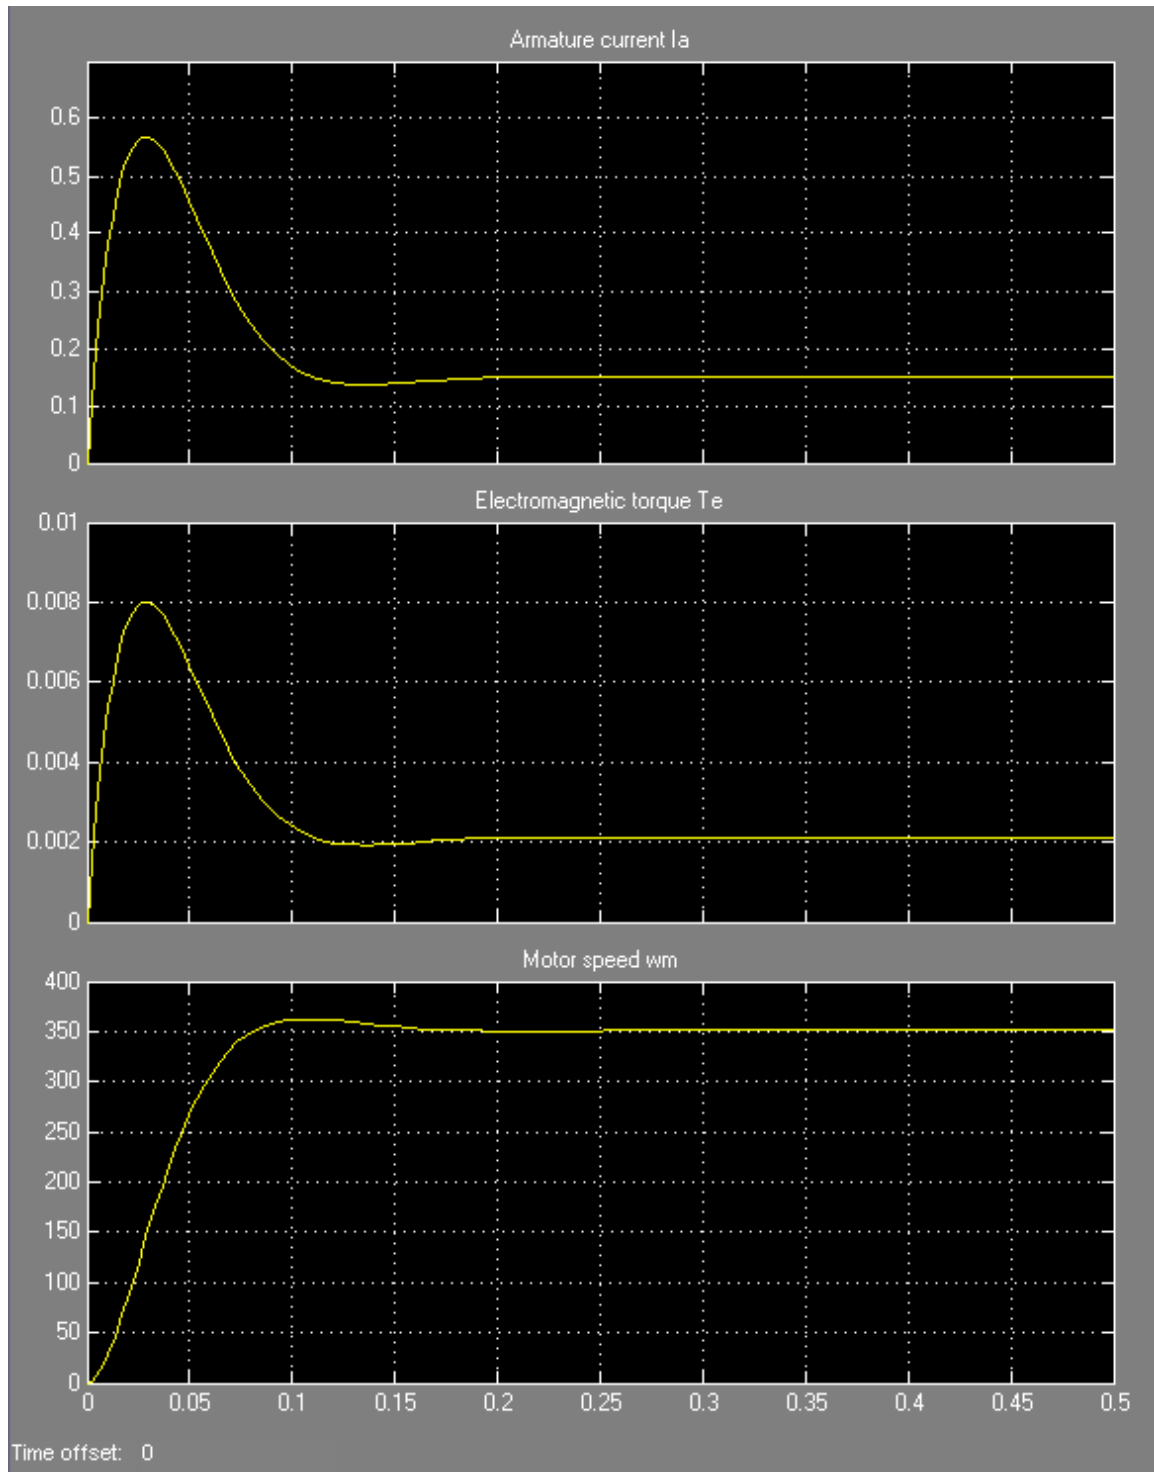

Fig. 3 Simulation results of permanent-magnet dc machine under no-load.
4. Run the simulation. Set the range of the first trace from 0 to 0.7, second trace from 0 to 0.01 and the third trace from 0 to 400. The traces on the scope are the armature current ( $I_a$ ), electromagnetic torque ( $T_e$ ) and the motor speed ( $\omega_m$ ). The graph looks like as shown in fig. 3.